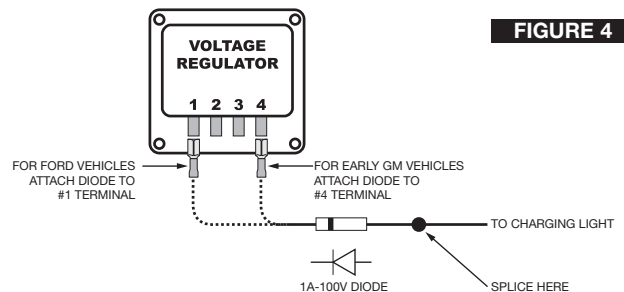

FIGURE 4
Early Ford and GM: To solve the run-on problem, a diode is supplied with the HYFIRE® 6AL2 Ignition Control. By installing this diode in-line of the wire that goes to the charging indicator, the voltage is blocked from entering the HYFIRE® 6AL2 Ignition Control. Figure 4 shows the proper diode installation for early Ford and GM vehicles.
**NOTE: Diodes are used to allow voltage to flow only one way. Make sure the diode is installed facing the proper direction, as shown in Figure 4.**